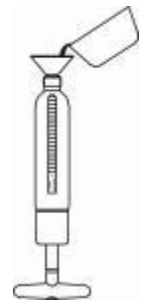

Fig. 1
- (1) Establish the working channel : there are two ways for this step, and both should be made under the monitor of fluoroscopy
- (2) Introduce the bone drill (If specimen needed, use the hollow drill) through the working channel to the vertebral body to drill a channel for placing the container. It is performed under the monitor of fluoroscopy. When the drill arrived at the proper depth, take it out.
- (3) Insert the bone expander into the channel and confirm through fluoroscopy that it has reached the site of vertebral compression fracture. Through repeated expansion, a space is formed inside the vertebral body.
- (4) Insert the introducing tube and container into the working channel to introduce the container into the vertebral body. Confirm that the container has fully extended out from the working cannula by visualizing the anterior marker and titanium nozzle under the fluoroscopy. Remove the guide pin.
- (5) Turn the handle of the spiral injector counterclockwise until the tip of the plunger back to the mark of 10ml, put the funnel onto the distal end of barrel.
- (6) Open the package of bone cement, and make the mixture of bone cement. Pour the mixture to the barrel when it is in the state of gruel(Fig. 1). Attach the extension tube to the injector, and lock the connection tightly.
- (7) Hold the injector with the plunger handle pointing downwards; rotate the handle clockwise to purge the air from the barrel and extension tube.